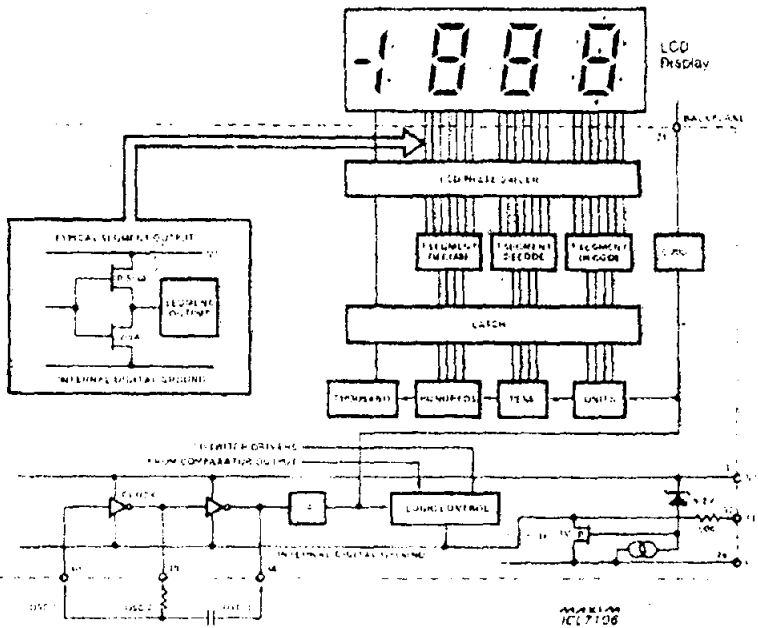

Figure 8 ICL7106 Digital Section
The digital section for the ICL7106 and ICL7107 is illustrated in Figures 8 and 9. In Figure 8, an internal digital ground is generated from a 6V zener diode and a large P-channel source follower. This supply is made stiff to absorb the large capacitive currents when the back plane (BP) voltage is switched. The BP frequency is calculated by dividing the clock frequency by 800. For example, with a clock frequency of 48kHz (3 readings per second), the backplane will be a 60Hz square wave with a nominal amplitude of 5V. The segments are driven at the same frequency and amplitude. Note that these are out-of-phase when the segment is ON and in-phase when OFF. Negligible dc voltage exists across the segments in either case.